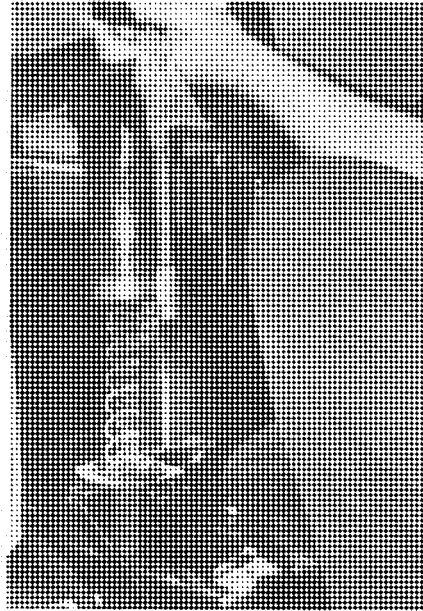

FIGURE 17.
**NOTE:** The following step is a two person operation. While one person lowers the seat assembly, the other person must guide the seat assembly to insure that the springs, cylinders, and up-stop mechanism are correctly aligned. See FIGURE 17.